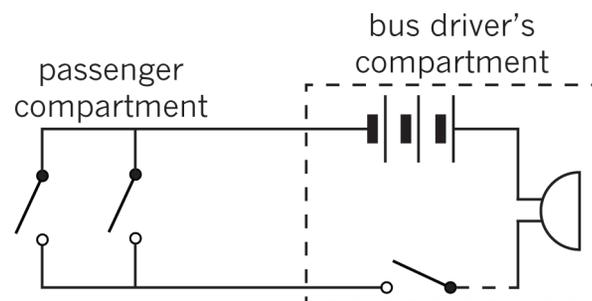

Figure 11: A circuit for passengers to tell the driver that they want to get off
Many buses have push switches for passengers to let the driver know they want to get off at the next stop. The circuit diagram might look like Figure 11. In this circuit diagram, there are two push switches for passengers. Any one of these switches can ring the bell next to the driver.
- Copy Figure 11 and write SW1 and SW2 next to the two switches for the passengers.
Hint: Look at Figure 11 again to see how dashed lines were used to show the part of the circuit in the bus driver's compartment. [2]